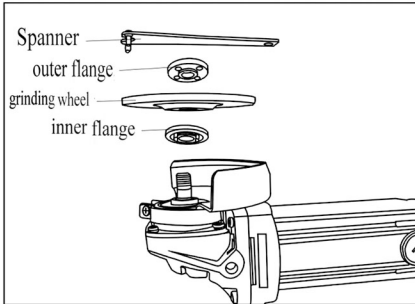

Fig2
1. Mount the inner flange onto the spindle, Fit the wheel/disc on the inner flange and screw the outer flange onto the spindle (Fig 2).